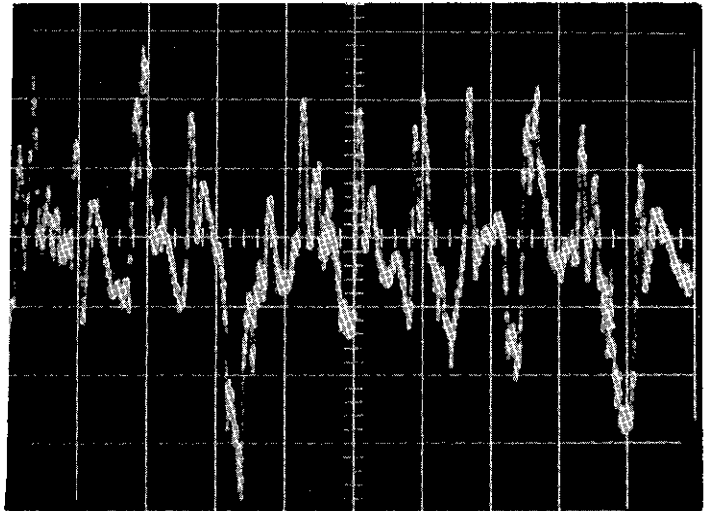

FIGURE 8. Wave Form with R1048 Adjusted. A Type 503 Oscilloscope was used; horizontal sweep was 20 msec/cm; vertical, 500 mv/cm.
b. To adjust the potentiometer, set the Reference Voltage Dials to zero and short the input terminals. Attach an oscilloscope to the junction of capacitor C1016 and resistor R1035 (from pin 6 of V1002). Figure 8 shows the wave form if potentiometer R1048 is adjusted for minimum output.